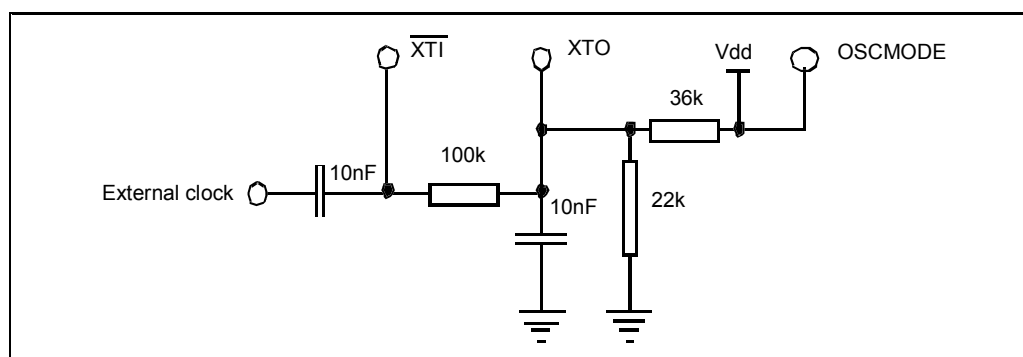

Figure 11 - External Clocking via AC Coupling
- AC coupling of a single ended external clock to  $\overline{XTI}$ , with OSCMODE = 1, is possible. It is recommended that the circuit shown in Figure 11 be used to correctly bias the oscillator inputs: The common-mode voltage VCM for  $\overline{XTI}$  and XTO, (set by the 15 k $\Omega$  and 22 k $\Omega$  resistors) must be  $800 \text{ mV} < V_{CM} < CV_{dd}$  and the amplitude Vpp of the clock signal must be  $> 400 \text{ mV}$ .